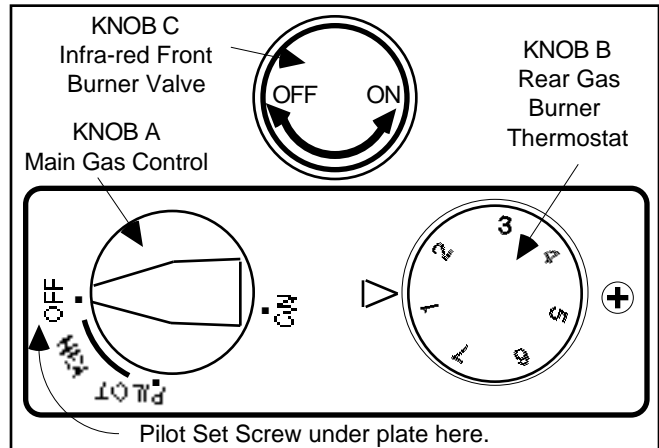

Figure 11
1. Turn **KNOB "A" (Main Gas Control)** clockwise to "OFF" position. See **Figure 11**.
3. Wait five (5) minutes before lighting.
5. Continue pressing down while turning **KNOB "A" (Main Gas Control)** further counter clockwise to activate piezo. Continue to hold down for ten (10) seconds after pilot burner has been lit. If pilot does not light, repeat steps 4 and 5.
7. Once pilot has been lit, release **KNOB "A" (Main Gas Control)** and turn further counter clockwise to the "ON" position. See **Figure 11**.
10. To light the front **INFRA-RED Burner**, Turn **KNOB "A" (Main Gas Control)** to the "ON" position then turn **KNOB "C" (Infra-Red Front Burner Valve)** counter clockwise to "ON". If the Infra-Red burner fails to light repeat steps 1 through 5 above. The Infra-Red burner will not operate unless **KNOB "A" (Main Gas Control)** is turned to "ON". See **Figure 11**.
11. Turning **KNOB "A" (Main Gas Control)** to "OFF" allows the pilot to remain lit while shutting down both the **Rear Gas Burner** and the **Front Infra-Red Heater**. See **Figure 11**.
- Turning **KNOB "A" (Main Gas Control)** to "ON" sends gas to the **Rear Gas Burner**, **Front Burner Lighter Tube**, and up to **KNOB "C"**. **KNOB "C" (Infra-Red Front Burner Valve)** in the "ON" position allows gas to flow to the front **INFRA-RED Burner** which is lit by the the **Front Burner Lighter Tube** flame. NOTE: **KNOB "A" (Main Gas Control)** must be "ON" to operate the **Front Infra-Red Burner**. See **Figure 11**.
1. **Basic Operation:** The thermostat setting, **KNOB "B" (Main Gas Control)**, directly effects the height of the **Rear Gas Burner** flame. (Note: The thermostat setting has no effect on the **Front Infra-Red Burner**.) The **Rear Gas Burner** flame will modulate from "Off" to "High" based upon the difference between the selected setting on **Knob "B"** and the room air temperature as sensed by the **THERMOSTAT SENSOR BULB**. If the room air temperature is less than the selected setting, the **Rear Gas Burner** flame will be in the "High" range. Conversely, if the room air temperature is greater or equal to the selected setting, the **Rear Gas Burner** flame will be smaller or completely extinguished. See **Figure 11**.
2. **Adjusting Temperature:** Turn **Knob "B" (Main Gas Control)** toward higher numbers (max 7) to increase temperature, toward the lower numbers (1) to decrease temperature. See **Figure 11**.
3. **Burner Cycling:** With **Knob A** in the "ON" position, the **Rear Gas Burner** flame will modulate up and down to meet the selected setting on **Knob "B" (Main Gas Control)**. The **Front Infra-Red Heater** does not modulate. See **Figure 11**.